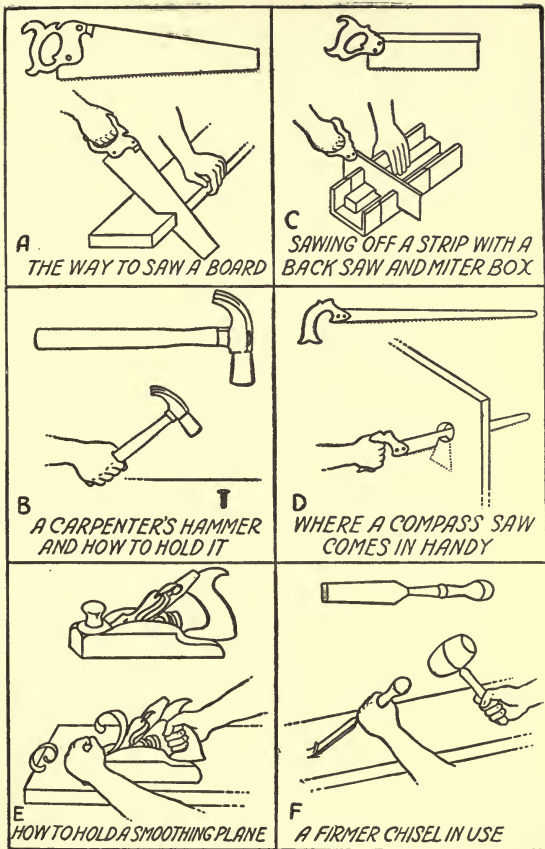

FIG. 1. SOME USEFUL WOOD WORKING TOOLS
All the tools you will need at first are shown in Figs. 1 and 2 and these are (1) a cast-steel, adze-eye, bell-faced *hammer*¹ weighing about 9 ounces, which is a regular carpenter's hammer. (2) A *mallet*, made of hickory, with a 2½ inch face and try to get one in which the handle goes clear through the head and is wedged in.
(3) Four saws,² namely (a) a 16 inch *crosscut saw* — usually called a *handsaw* — which is used for sawing off boards across the grain, (b) a 20 inch *rip-saw*, for sawing with the grain so that a board can be sawed lengthwise, (c) a *back saw* or *miter saw* as it is sometimes called; it is about 12 inches long and has about